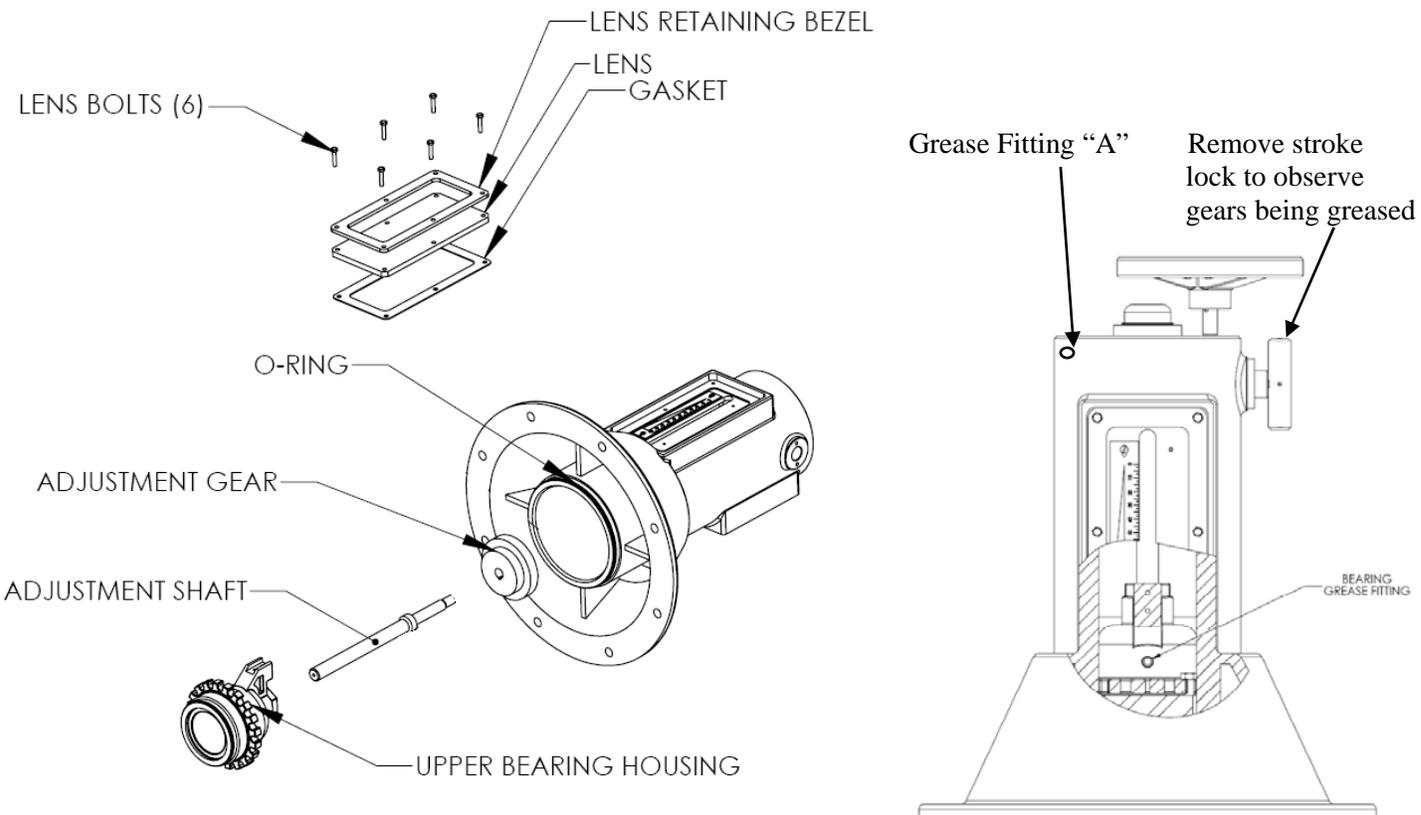

Figure 27
(Refer to Figure 27).
6. Use a standard grease gun to inject Heavy Duty Grease (e.g., NLGI #2 Lithium Complex Grease) into grease fitting "A" until grease is seen squeezing out from gear area. To observe the gear area in the stroke adjust housing remove the stroke lock mechanism from the stroke adjust housing. **See Figure 27 Right picture.**